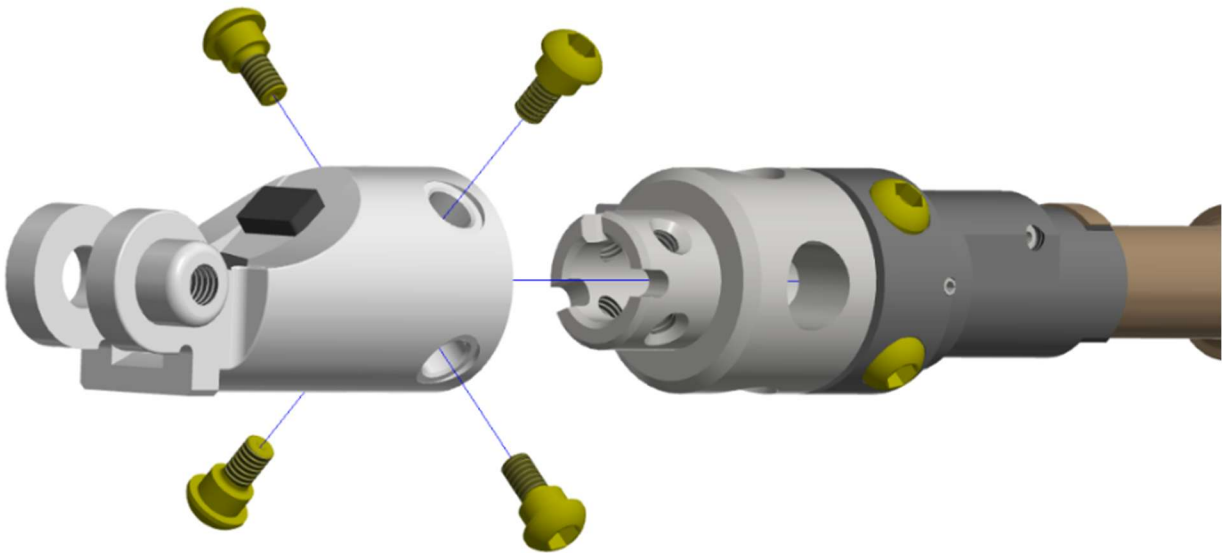

Figure 11-28. Connect the Lower Arm Load Cell Structural Replacement (484-6106) to the Proximal Lower Arm Tube (474-6501-1,2)
- 11.3.5 Connect the Lower Arm Load Cell Structural Replacement (484-6106) to the Proximal Lower Arm Tube (474-6501-1,2) using the four Modified BHSS M6 Thread (W50-61042) (Figure 11-28).